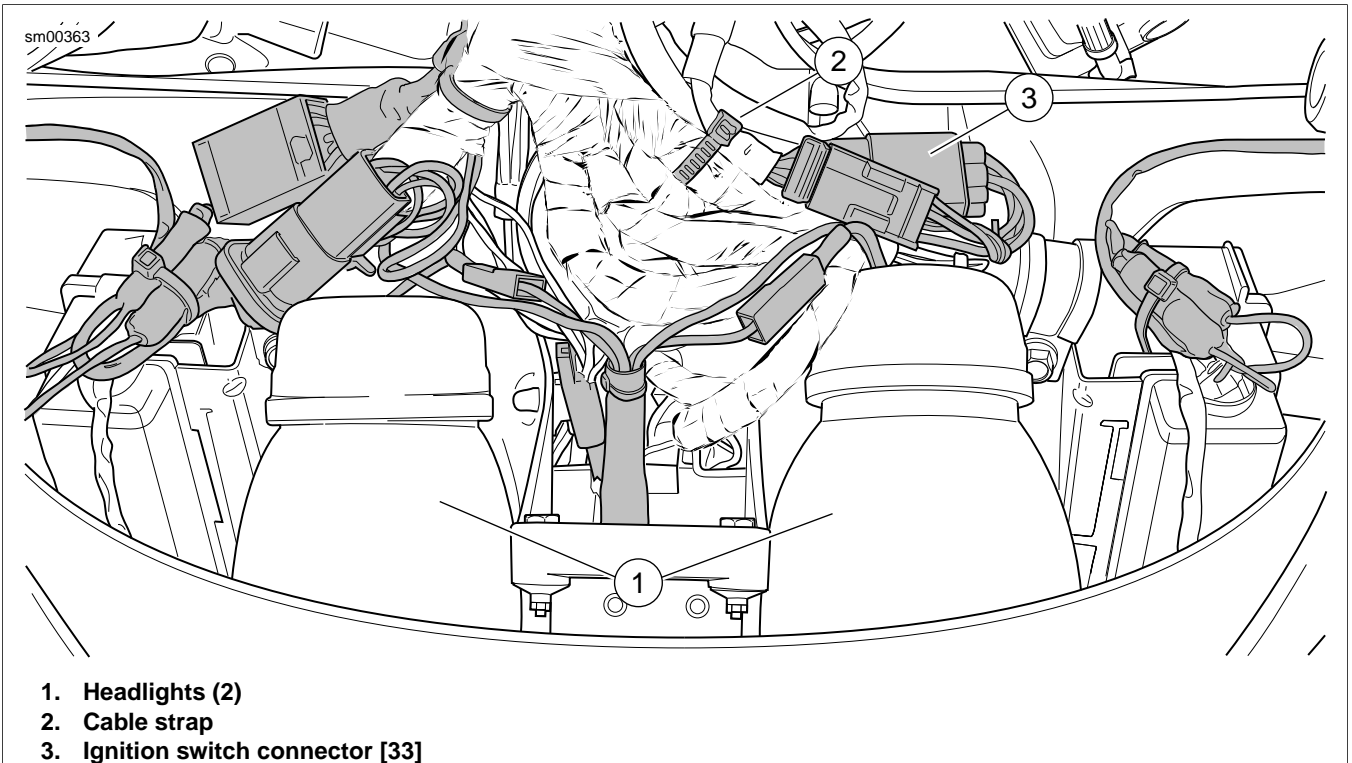

Figure 6-3. Cable Straps On Upper Fork Clamp: Firebolt
5. See Figure 6-3. Remove cable straps attached to the upper fork clamp.
- See Figure 6-3. Attach cable straps to upper fork clamp.